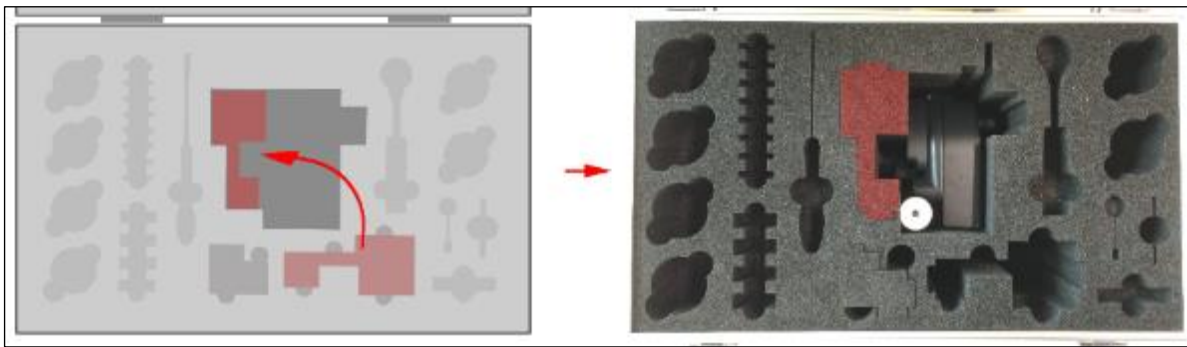

Figure 69: Dummy plugs and condenser
9. Switch the location of the dummy plugs so that the condenser fits (see Figure 69).